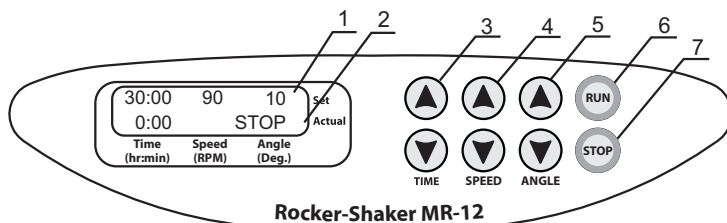

Fig.1. Front panel
- 4.2. The display will turn on with the upper line showing time, RPM and tilt angle set earlier (Set, fig.1/1) and the lower line (Actual fig.1/2) showing current readings of the parameters (0:00 – time, mode indication (STOP/RUN)).
Using the ▲ and ▼ **TIME** keys (Fig. 1/3) set the required working time interval in hours and minutes (increment 1 min). Pressing the key for more than 3 sec will increase the increment.
Note! If the operation time is not set and the timer indicator shows 0:00, pressing the **RUN** key (Fig. 1/6) will start continuous operation of the unit until the **STOP** key (Fig. 1/7) is pressed.
Using the ▲ and ▼ **SPEED** keys (Fig. 1/4) set the required shaking intensity in oscillations per minute (increment 1 oscill/min). Pressing the key for more than 3 sec will increase the increment.
Using the ▲ and ▼ **ANGLE** keys (Fig. 1/5) set the necessary angle
- 4.7. Press the **RUN** key (Fig. 1/6). The platform will start shaking and the timer indicator will start counting up the time interval (with 1 min precision).
- 4.8. If the platform is overloaded, the device will make three attempts to restart the operation (indication: DRIVER ERROR). If the attempts fail, a flashing OVERLOAD reading will be shown on the display, accompanied by the repetitive sound signal, until the **STOP** key (Fig. 1/7) is pressed. Eliminate the causes of overload before restarting operation (see p. 4.6).